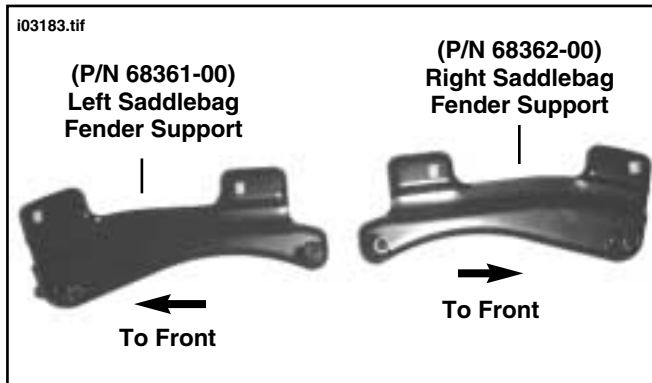

Figure 16. Identify Left and Right Supports
- See Figure 16. Obtain and identify the left and right saddlebag supports.